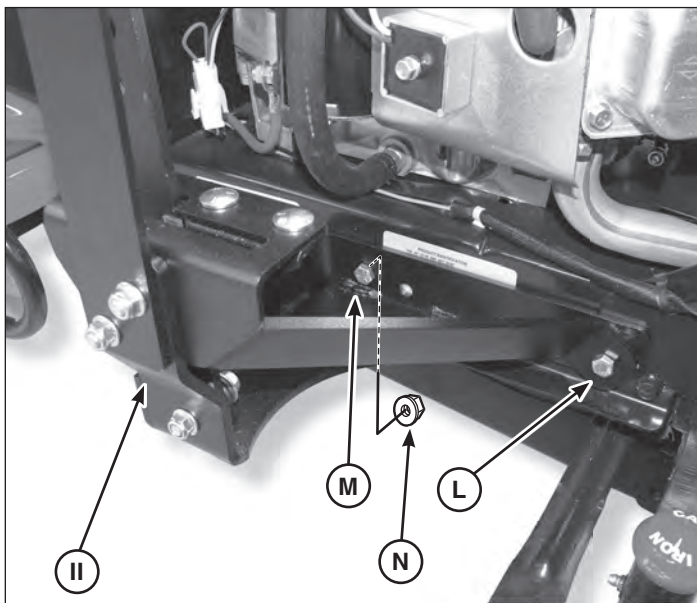

Figure 17
- Position lift support assembly (II) onto right side of tractor frame. Insert capscrew (L, Figure 17) into front hole of lift support assembly.